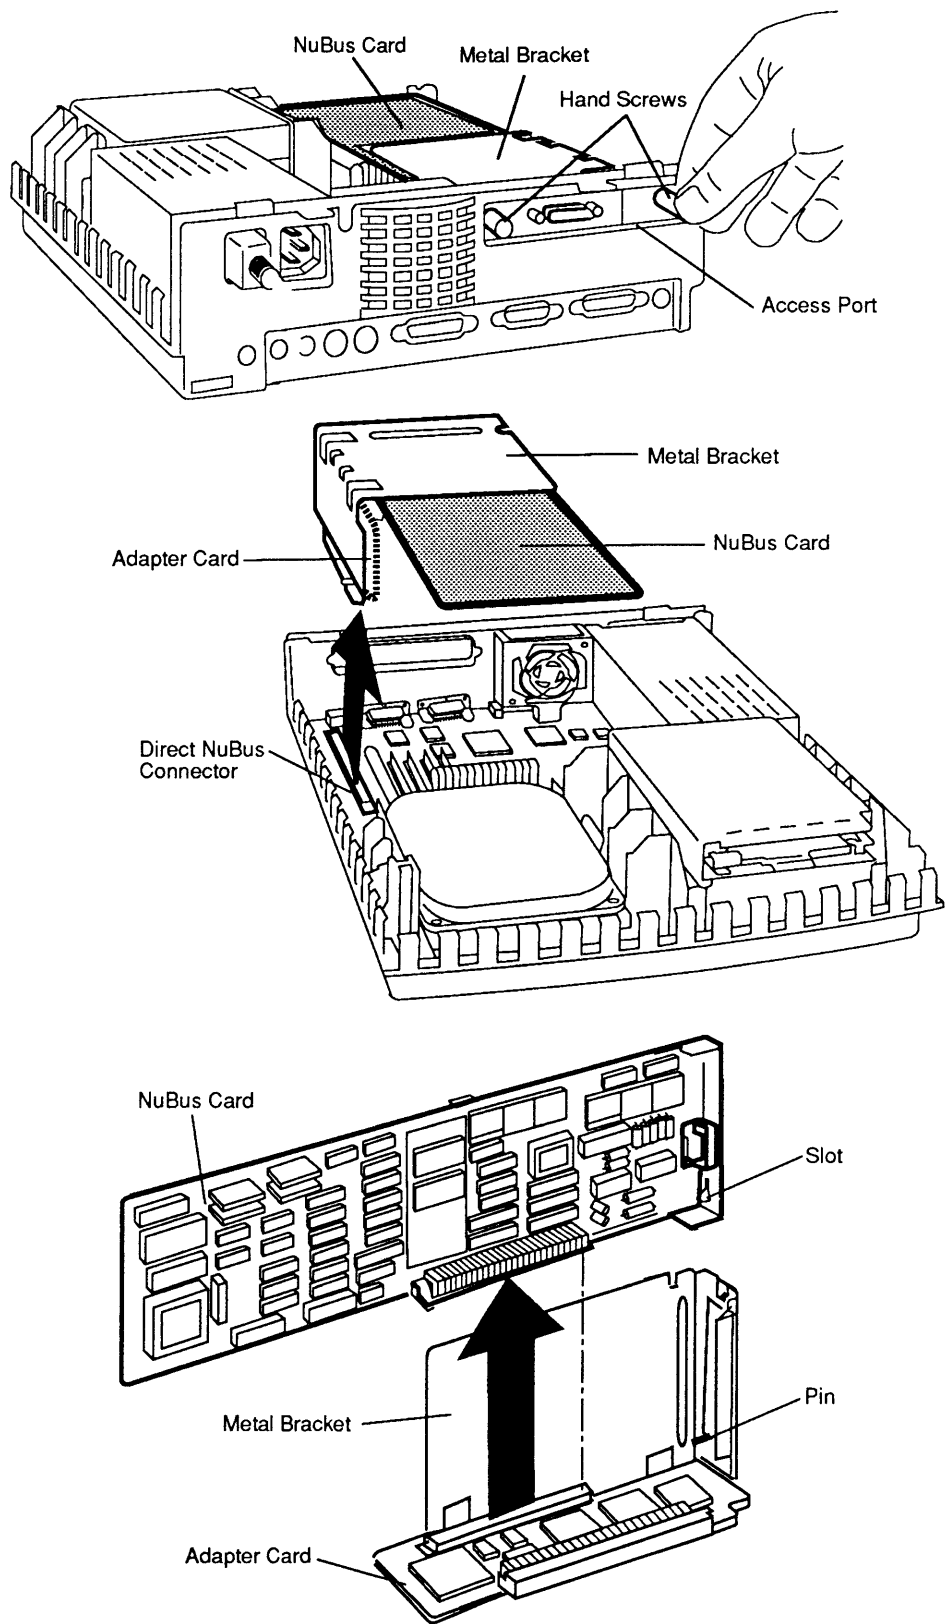

Figure 2-3 Adapter Card, Bracket, and NuBus Card
2. Loosen the two screws that fasten the NuBus card to the access port on the rear of the computer (**Figure 2-3**).